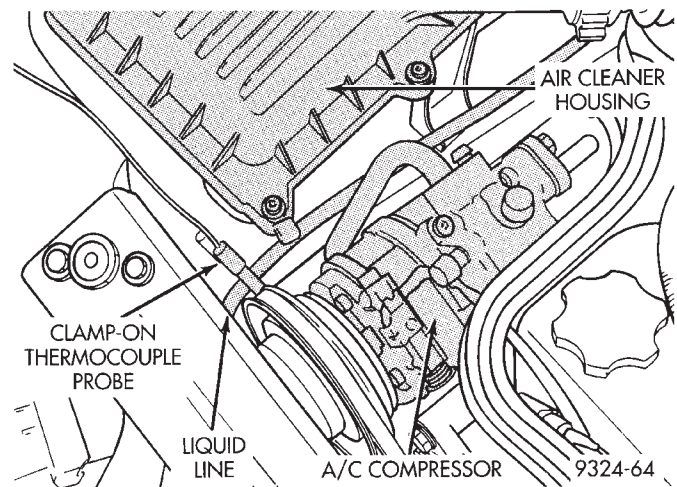

Fig. 4 Thermocouple Attachment Point
(2) Attach a clamp-on thermocouple (P.S.E. 66-324-0014 or 80PK-1A) or equivalent to the liquid line (Fig. 4). It must be placed as close to the condenser outlet as possible to observe liquid line temperature. Refer to "Thermocouple Probe" in this section for more information on probe.
(3) The vehicle must be in the following modes: